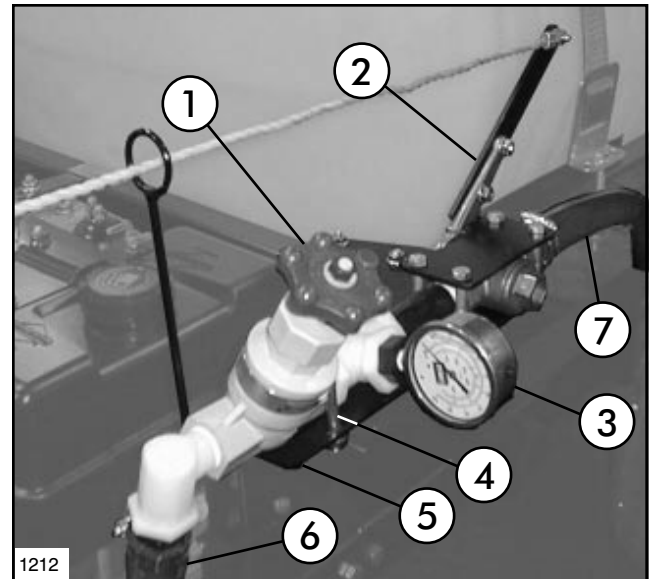

FIG. 10
2. Apply thread sealer and install the 3/4" x 90° elbow and 3/4" x 1" hose barb into the inlet port of the Pressure Adjust Valve. See FIG 10.
5. Attach Valve Plate Top to Valve Plate over Ratchet Valve as, shown in FIG. 10, using (4) 5/16" x 2-1/2" cap screws and flange nuts.
6. Hook (1) U-Bolt over outlet port of Pressure Adjust Valve and through Valve Bracket. Secure using (2) 5/16" flange nuts. See FIG. 10.
7. Attach other end of the 1" x 44" Hose attached to Cross earlier to the inlet port of the Pressure Adjust Valve. Secure with (1) 1" hose clamp.
8. Secure the 1" x 64" Hose to hose barb in Ratchet Valve using (1) 1" hose clamp. Route along Saddle frame toward rear of vehicle.
9. Attach handle to Ratchet Valve using (2) 5/16" x 3/4" cap screws and flange nuts.
11. Route Pull Rope along L.H. side of operator for ease of actuating Ratchet Valve. Provided are (2) Ring Guides, (2) R-Clamps, (1) Ring Terminal, (1) Pull Rope Handle, (2) 5/16" x 3/4" cap screws and flange nuts. Use as needed to route Pull Rope.